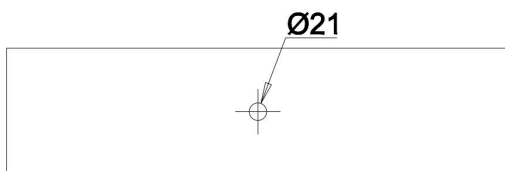
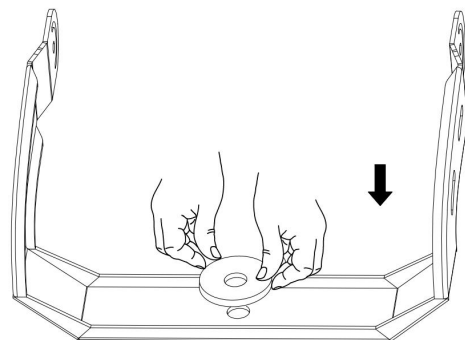

FIG.14
FIG.15
- 1) Drill one hole on the plane, the diameter 21 mm.(See FIG.14). Put the round plate on the bracket.(See FIG.15)